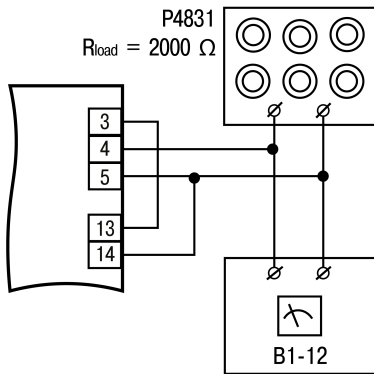

Figure 8.1 – Calibration of output voltage values
- connect the load (R_{load}) and a voltmeter to the output according to *Figures 8.1*(for output of type *Y*) and *8.2* (for output of type *V*);